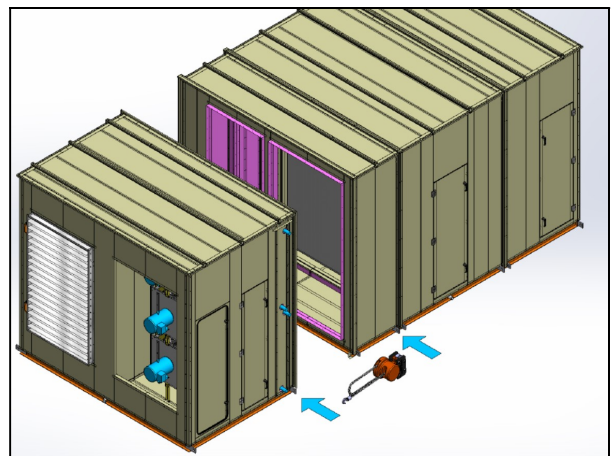

Figure 5: Approaching 2 sections with a chain block
- When sealing gasket is in place, and the crane operator did move the adjacent section as close as possible to the preceding one, you might need a chain block to bring both sections closer. Shown in **Figure 5**, lifting lugs located at each corner of the section can be utilized with the use of the chain block.